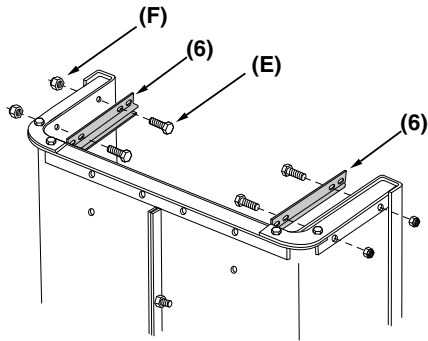

Figure 6
STEP 6 (SEE FIGURE 6): Attach the tailgate guides (6) using four 1/4" x 3/4" hex bolts (E) and 1/4" nylock nuts (F). **Do Not Tighten!**